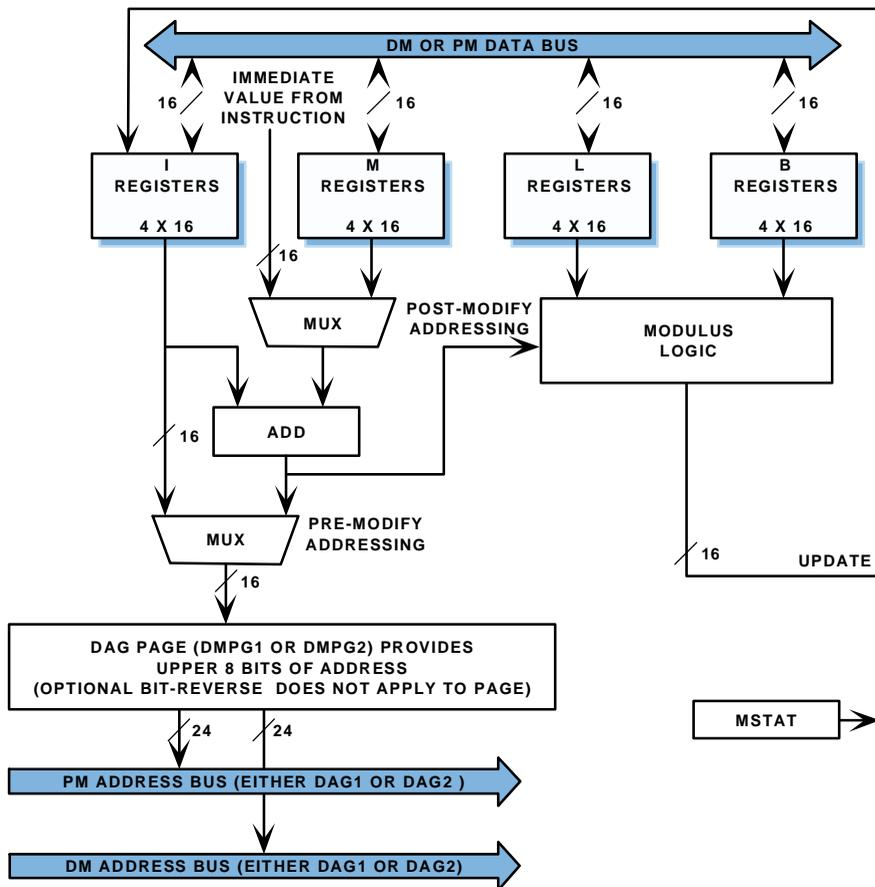

Figure 4-1. Data Address Generator (DAG) Block Diagram
The DSP’s Data Address Generators (DAGs) generate addresses for data moves to and from Data Memory (DM) and Program Memory (PM). By generating addresses, the DAGs let programs refer to addresses indirectly, using a DAG register instead of an absolute address. The DAG architecture, which appears in Figure 4-1 on page 4-3, supports several functions that minimize overhead in data access routines. These functions include:
As shown in Figure 4-1 on page 4-3, each DAG has five types of registers. These registers hold the values that the DAG uses for generating addresses. The types of registers are:
The DSP's DAGs perform several types of operations to generate data addresses. As shown in Figure 4-1 on page 4-3, the DAG registers and the MSTAT register control DAG operations. The following sections provide details on DAG operations:
An important item to note from Figure 4-1 on page 4-3 is that each DAG automatically uses its Data Memory Page (DMPGx) register to include the page number as part of the output address. By including the page, DAGs can generate addresses for the DSP's entire memory map. For details on these address adjustments, see “Data Memory Page Registers \(DMPGx\)” on page 4-7.